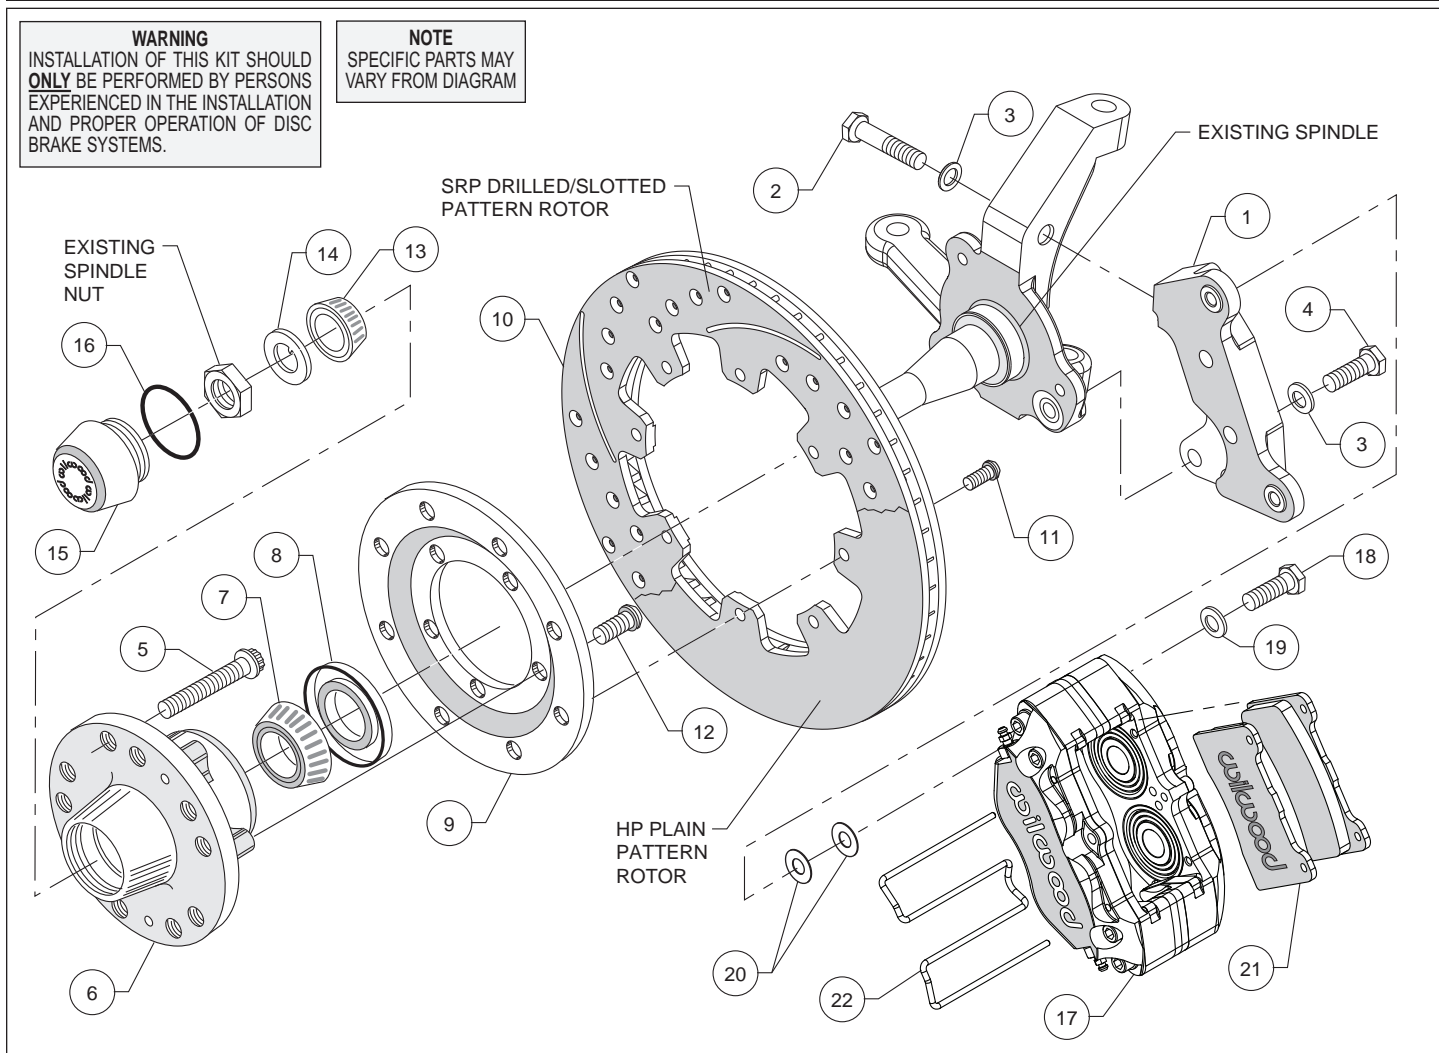
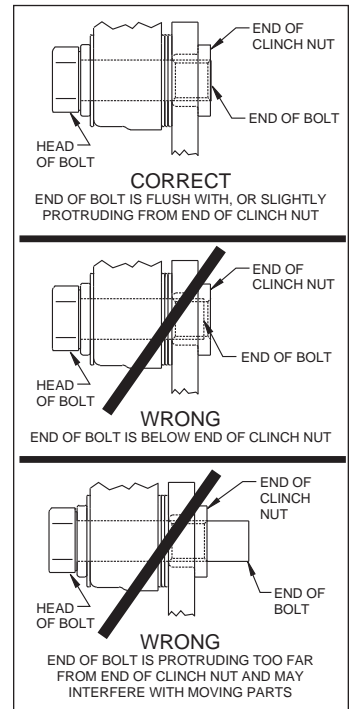

Figure 1. Typical Installation Configuration
Figure 3. Clinch Nut Engagement Diagram
**Assembly Instructions** (numbers in parenthesis refer to the parts list, on the preceding page and Figure 1): **CAUTION:** All mounting bolts must fully engage clinch nuts. Be sure to check that all bolts are either flush or protruding through flanged side of clinch nut after shimming, Figure 3.
- Align caliper mounting bracket (1) with the corresponding holes on the spindle. Attach using bolts (2 and 4) and washers (3) as shown in Figure 1 and Photo 1. Temporarily tighten the mounting bolts. Ensure that the flanged heads of the clinch nuts in the bracket are facing outboard, Photo 1. **NOTE:** The bracket must fit squarely against the mounting points on the spindle. Inspect for interference from casting irregularities, machining ridges, burrs, etc. Remove bolts one at a time, apply red *Loctite*® 271 to threads and torque to 47 ft-lbs.
- Orient the rotor (10) and the rotor adapter (9) as shown in Figure 1 and Photo 4. Attach the rotor to the adapter using bolts (11). Using an alternating sequence, apply red *Loctite*® 271 to the threads, and torque to 25 ft-lb.
- Mount the adapter/rotor assembly (9/10) to the hub (6) using bolts (12), as shown in Figure 1 and Photo 5. Using an alternating sequence, apply red *Loctite*® 271 to the threads, and torque to 45 ft-lb.
- NOTE:** Please reference the caution statement at the beginning of the assembly instructions. Mount the caliper (17) onto the caliper mounting bracket (1) using bolts (18) and washers (19), as shown in Figure 1. Initially place two .035" thick shims (20) on each bolt between the caliper and the bracket, Photo 8. Temporarily tighten the mounting bolts and view the rotor (10) through the top opening of the caliper. The rotor should be centered in the caliper, Photo 9. If not, adjust by adding or subtracting shims between the bracket and the caliper. Always use the same amount of shims on each of the two mounting bolts. **NOTE:** The end of each bolt must be flush with or slightly protruding from the head of the clinch nut, as shown in Figure 3. If necessary place spare shims between washer (19) and caliper mounting ear to achieve the proper clinch nut engagement. Once the caliper alignment and clinch nut engagement are correct, remove the bolts one at a time, apply red *Loctite*® 271 to bolt threads, and torque to 40 ft-lb.